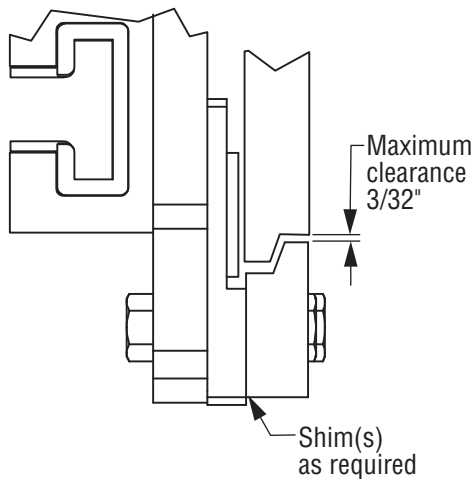

Figure 4-4, Lower Hook Clearance
10. Install the bolt-on lower hooks. Inspect clearance to the carriage on lower hooks. Adjust the lower hooks for a maximum clearance of 3/32" (see Figure 4-4). Tighten the bolts to 40-50 ft-lbs.